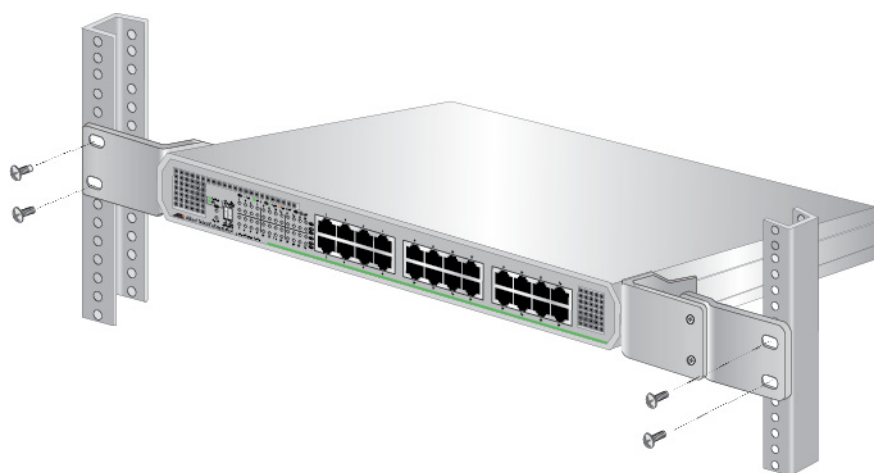

Figure 29. Attaching the Switch to an Equipment Rack
4. Mount the switch in a standard 19-inch equipment rack with four equipment rack screws as shown in Figure 29.